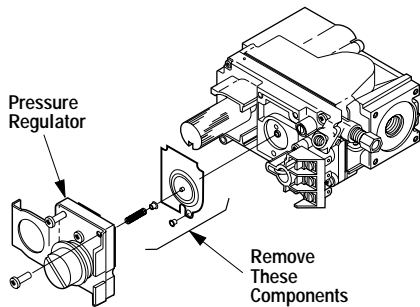

Figure 27
Step 4. SIT Systems - Refer to **Figure 27** and the instructions provided with the kit. Using a Torx T20, remove and discard the three pressure regulator mounting screws. Remove the pressure regulator, spring, poppet, diaphragm and bushing. **Discard all removed components.** Ensure the rubber gasket installed on the back of the replacement pressure regulator is properly positioned and install the new pressure regulator using the new screws supplied with the kit. Tighten screws to 25 In. lb. torque.